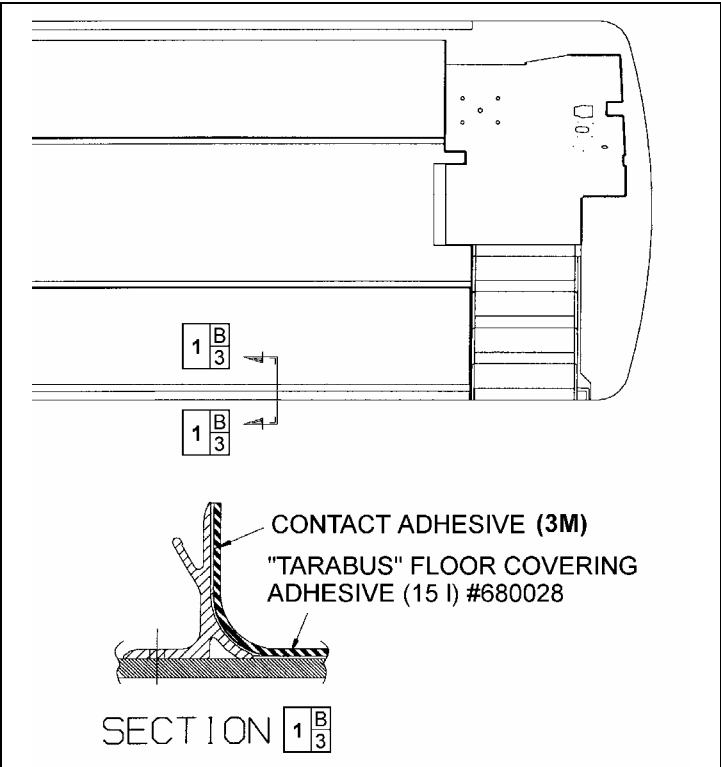

FIGURE 26: TARABUS FLOOR COVERING ADHESIVE APPLICATION
6. Apply floor covering adhesive (680028) onto plywood using a serrated spreader with 1/8-inch serration. If required, apply contact adhesive (3M) (684654 or 684655) onto aluminum molding and also onto section of floor covering, which will be in contact with molding (refer to figure 26).